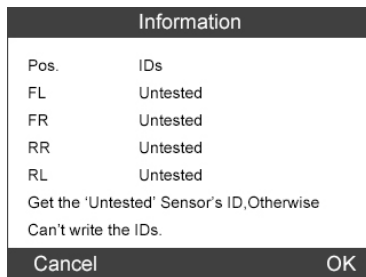

Figure 4.25
- NOTE:** *If there are untested sensors in the vehicle, the writing ID process cannot proceed. The tool will display a warning message as below. (Figure 4.25) In this case, follow the sensor check procedure to activate all sensors in vehicle and register sensor IDs again.*